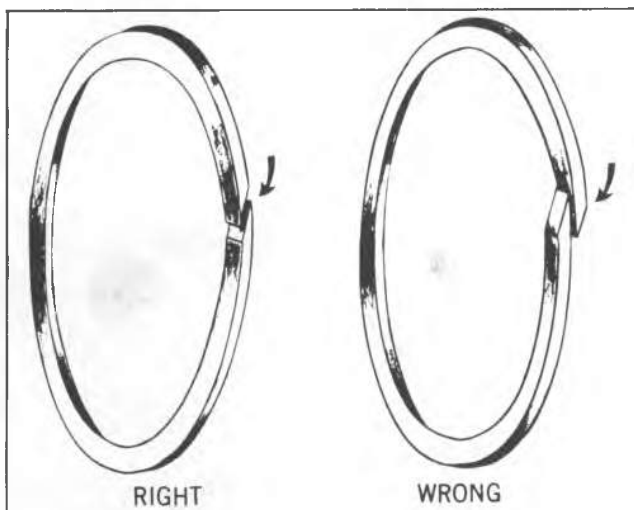

Fig. 7A-120A--Teflon Oil Seal Rings
10. Install forward to direct clutch thrust washer and retain with petrolatum (Fig. 7A-111A).
11. If removed, install new turbine shaft seal rings, making sure cut ends are assembled in the same relationship as cut and rings are seated in their groove. Retain with petrolatum. (See Fig. 7A-120A for correct way to position cut ends.)
2. Install intermediate band, locating band apply lug and anchor pin lug in case slots (Fig. 7A-125A).